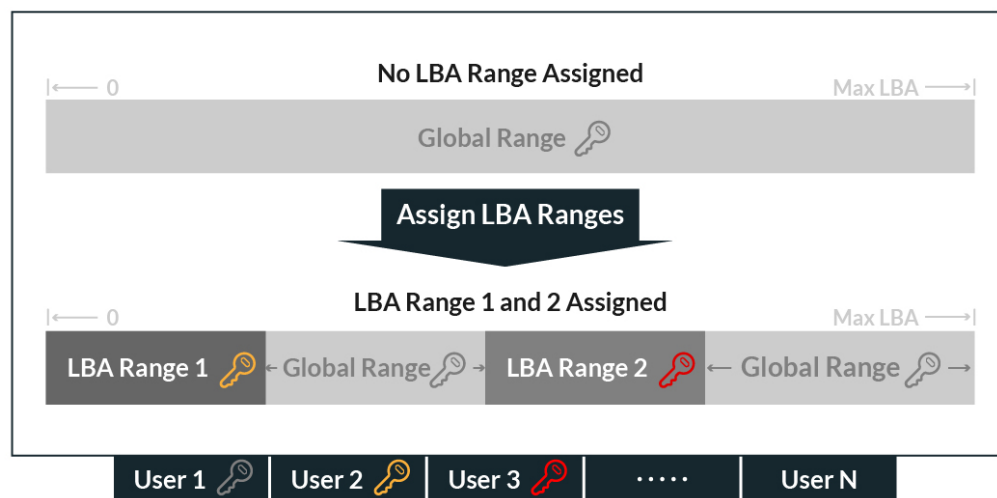

Figure 5: LBA Range Operation
2. The A key is then changed to Key B with ATA Cryptographic Erase command. At this time, the user is only able to read data as a random string of alphanumeric (See figure 5).
OPAL also allows for the partition of access control to read/write/erase independent LBA ranges for individual users (see Figure 5). “Global Range” is the default settings that encompass the whole user data area. In the figure below, the drive has been altered such that LBA Range 1 and 2 can only be accessed by user 2 and 3 respectively.